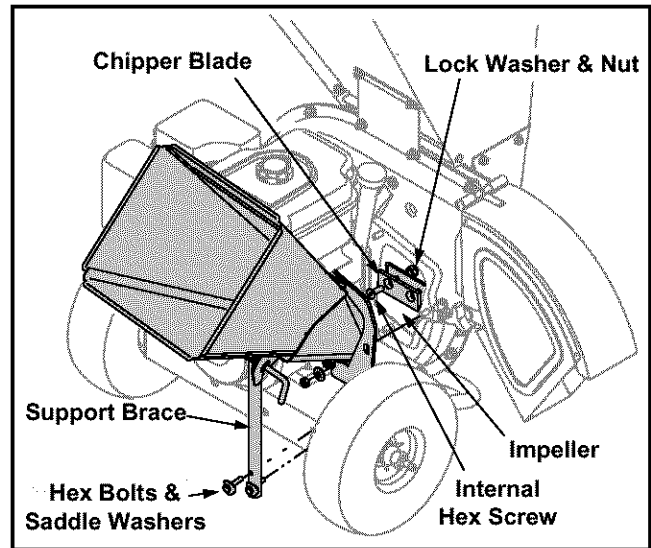

Figure 18
- Remove the chipper chute support brace from the frame by removing the two hex bolts and saddle washers which secure it. See Figure 18.
- Remove the chipper chute by removing three hex nuts and washers which secure it to the impeller housing. See Figure 18.
NOTE: Use a 3/16" hex key (Allen) wrench on the outside of the blade and a 1/2" box (or socket) wrench on the inside of the impeller. See Figure 18. Hold the Allen wrench stationary and rotate the box (or socket) wrench to loosen the nut.